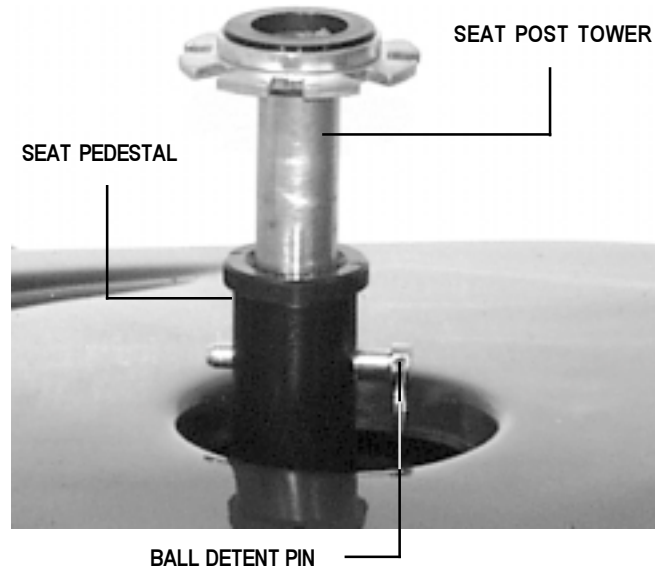

FIGURE 11. SEAT HEIGHT ADJUSTMENT
2. Use the attached ring to pull and remove the ball detent pin from the seat pedestal. See figure 11.